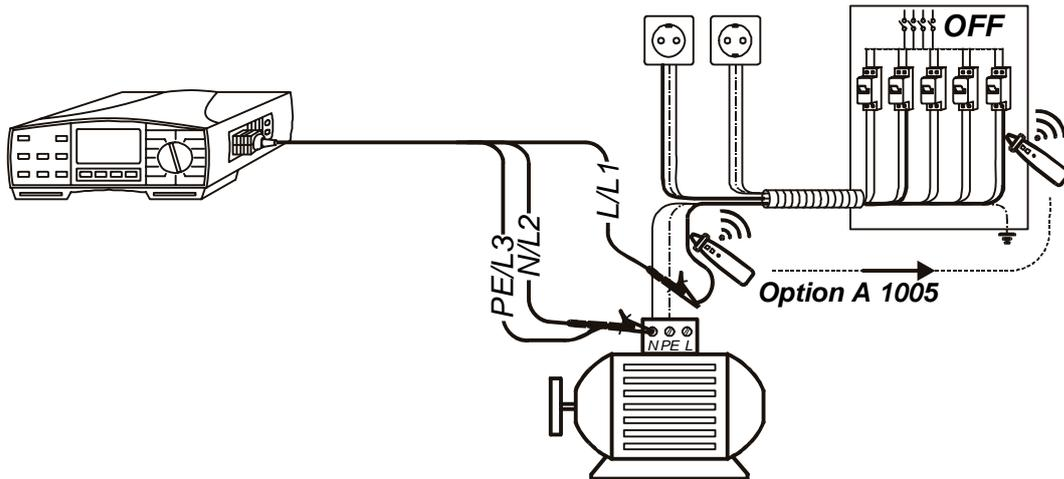

Fig. 86. Connection of Universal Test Cable to a voltage-free conductor
- ◆ **Connect current test clamp** and **voltage test leads** to tested object, according to the figure 86. (press the **HELP** key for basic connection information).